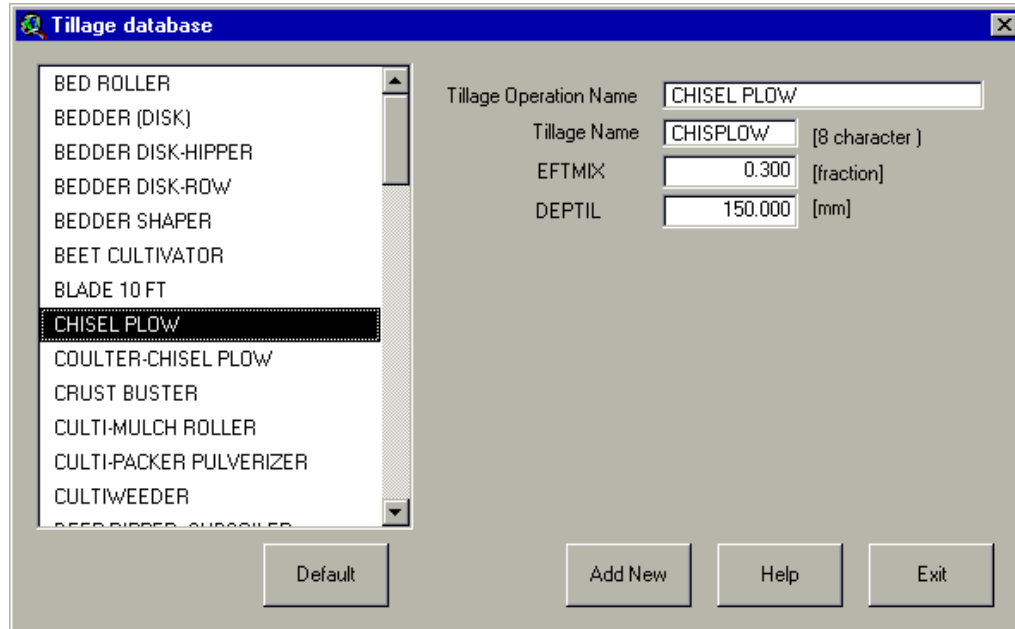

Figure 14.62
- b. The data for the tillage operation will be displayed (Figure 14.62). A complete description of the parameters is provided in the *Soil and Water Assessment Tool User's Manual, Version 2000*, Chapter 15.